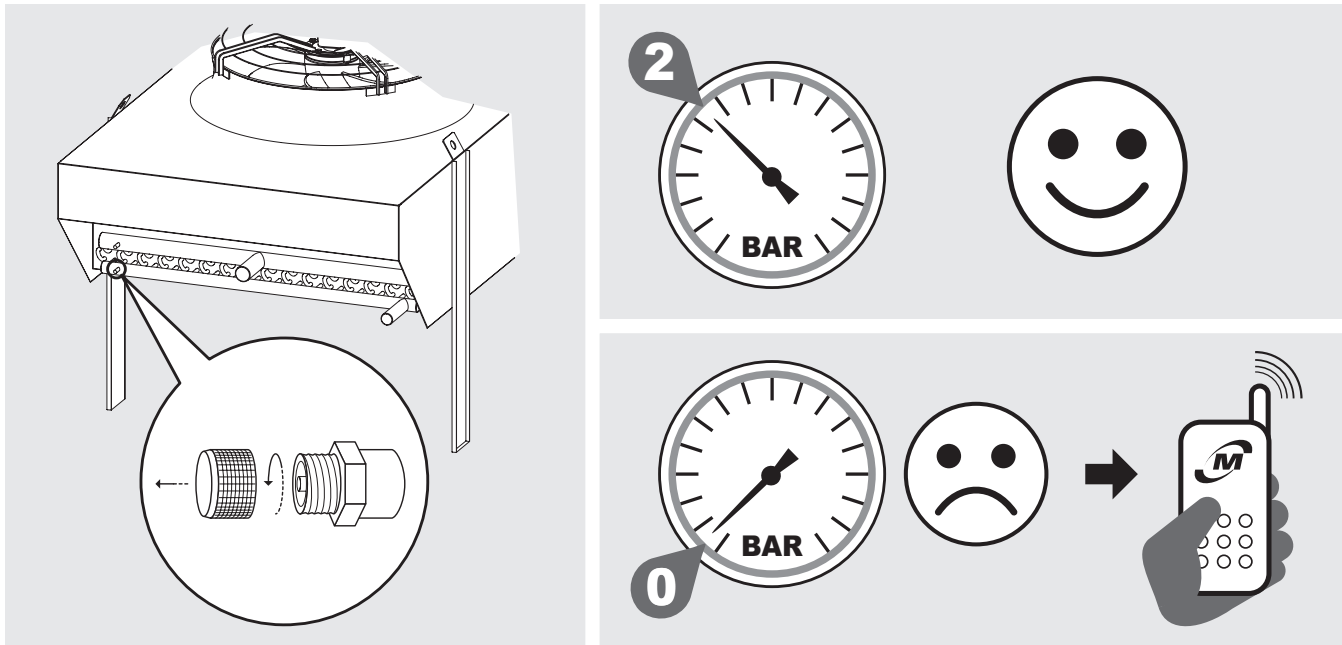

Figure 2
- 4.2 The heat exchangers of the condensers (KCEK) and the gas coolers (KCES) are supplied with a pre-charge of dry air at 2 bar and have load couplings of 1/4" SAE. Check for the presence of pressure. In the absence of pressure immediately contact Modine and report the problem on the transport document. Insufficient pressure indicates a loss due to damage incurred during transportation. See Figure 2.